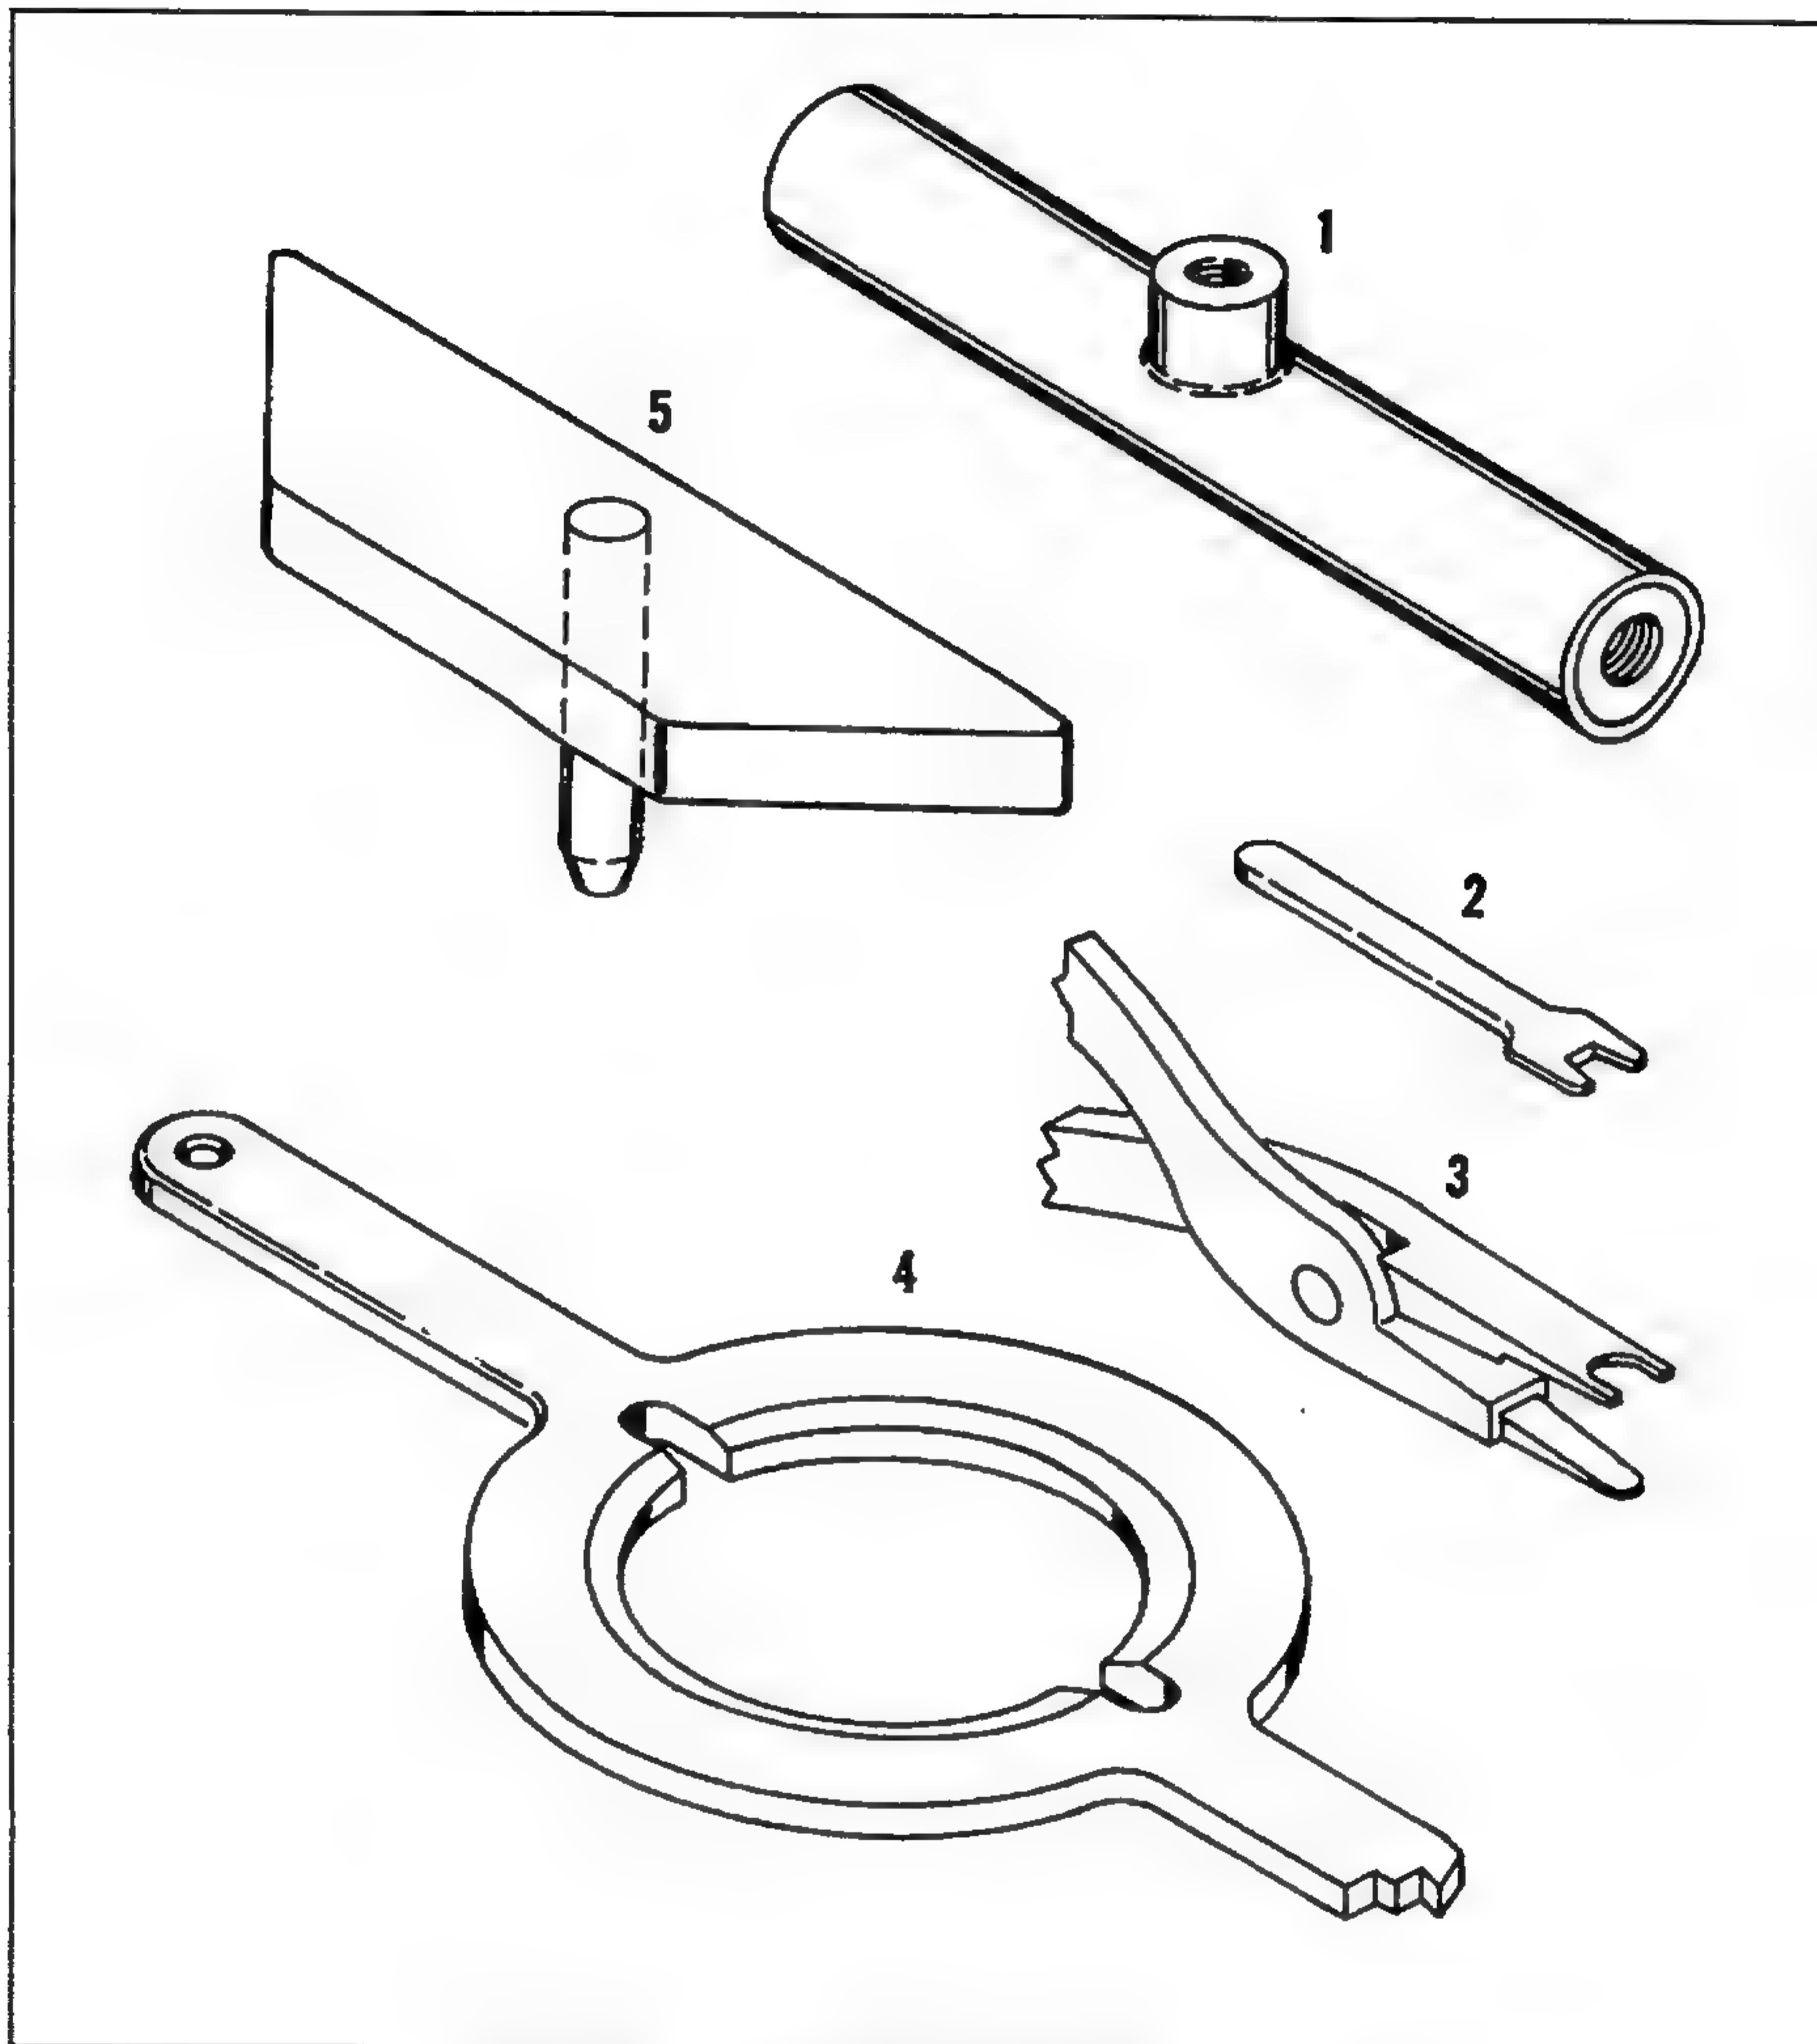

Figure 901: Special Tools and Test Equipment
A list of special tools and/or equipment required for assembly of the 27660 Series Oxygen Regulator Assemblies is presented in Table 701. Entries in the "ITEM NO." column refer to the tool illustrations presented in Figure 901. Equivalent tools and/or equipment may be substituted for the listed items.
F. Place the unit assembled in step E into the inlet port of the regulator body assembly and finger tighten this unit into shaft (235) until valve (165) just bottoms on seat (175). Install retainer (170); torque retainer to 35-40 IN LBS (4.0-4.5 Nm).
G. Place link positioning gauge (5, Figure 901) on shoulder of case just inside threaded area; position gauge so that pin rests on joint of link (215, IPL Figure 1) near center of case. Note position of pin in relation to bar of gauge; back out valve (165) until top of pin is flush with bar.
H. Remove the gauge and tighten nut (180) against shaft (235) using open end wrench (2, Figure 901). Recheck indication of gauge after tightening nut.
I. Compress spring (200, IPL Figure 1) and press spacer (130) into place using pliers (3, figure 901). Check that spacer is secure and maintains the spring in a compressed position.
K. While holding plate (110) firmly with a standard spanner wrench, install nut (105) on actuator link (220); torque nut to 35 IN LBS (4.0 Nm).
L. Place spring (100) onto plate (110), and place guide (95) on spring (100 or 100A). Boss of guide (95) must fit into spring.
N. Align diaphragm assembly (125) so that it is concentric with regulator body. SPARINGLY apply a thin film of oxygen lubricant to the metal ring of diaphragm. Thread cap (85, 90 or 91) into regulator body (275 or 280) using spanner wrench (4, figure 901). When properly installed, all threads of the cap will be below top of regulator body.
O. SPARINGLY apply a thin film of oxygen lubricant to packing (265); install packing on plug (260). Install plug in regulator body (275 or 280).
- | Q. Secure identification plate (75) to cap (85, 90 or 91) with screws (80).
- | R. Attach nameplate (60) to cap (85, 90 or 91) and lockwire the cap to the regulator body per the applicable instructions of MS 33540.
- S. Place nipple (140) into nut (145); torque nut to 300 IN LBS (33.9 Nm). SPARINGLY lubricate the internal threads of nut (135) with oxygen lubricant and thread the nut onto nipple (140). SPARINGLY lubricate ring (150) with oxygen lubricant and place the ring against nut (135). Position packing (155) on ring (150) after lubricating the packing SPARINGLY with oxygen lubricant. Press filter (160) into regulator inlet port and then thread nipple (140) into port. Secure nipple and then tighten nut (135) against regulator body (275 or 280).
- T. Thread nut (245) onto elbow (240) and place packing (250) against nut (245) after lubricating the packing SPARINGLY with oxygen lubricant. Thread elbow (240) into regulator outlet port and secure nut (245) against regulator body.
Special test equipment required for testing of the 27660 Series Oxygen Regulator Assemblies are presented in Table 901. Special tools and/or equipment required for assembly/disassembly of the Oxygen Regulator Assemblies are listed in Table 902. Figure 901 illustrates some of the special tools test equipment listed in Tables 901 and 902.